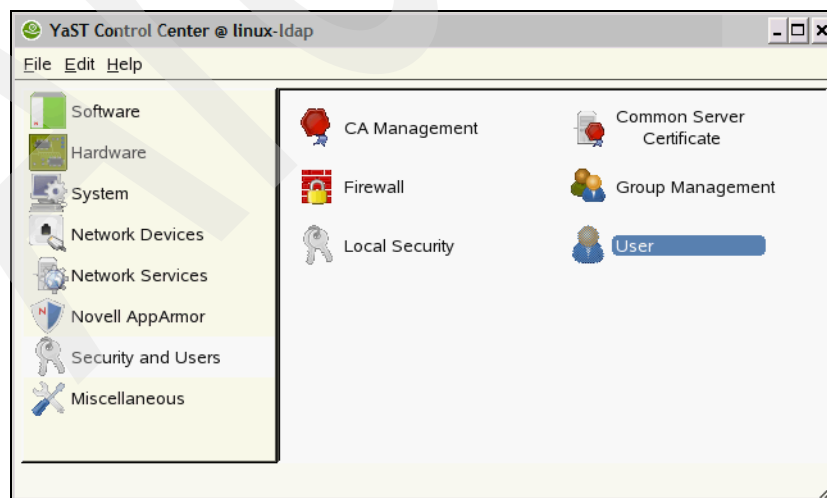

Figure 7-2 YaST - User management
1. Enter the **yast2 &** command. The window shown in Figure 7-2 should appear. Select **Security & Users → User Management**.